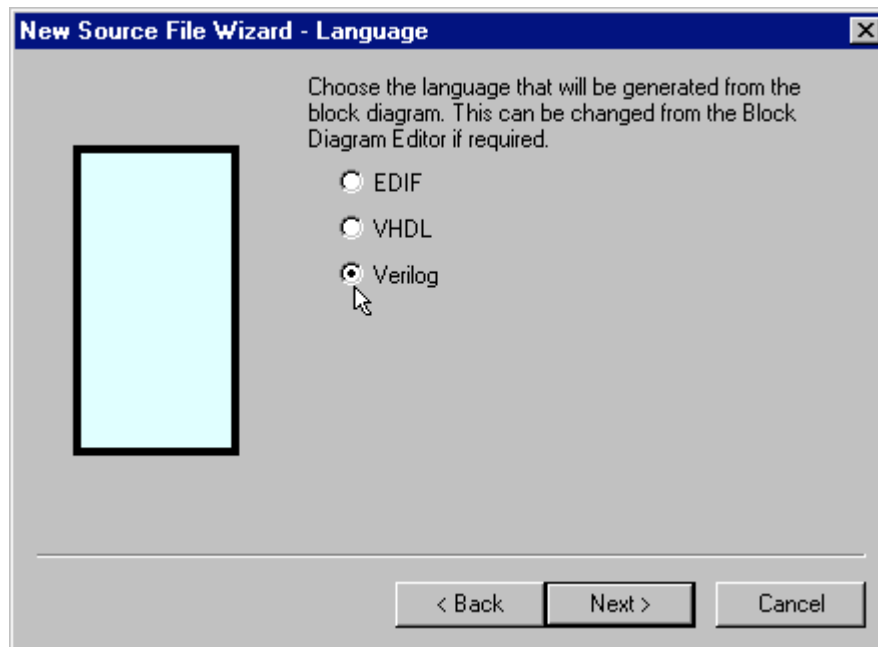

Figure 10
4. Select the “Verilog” option, and click the Next button (see Figure 10).